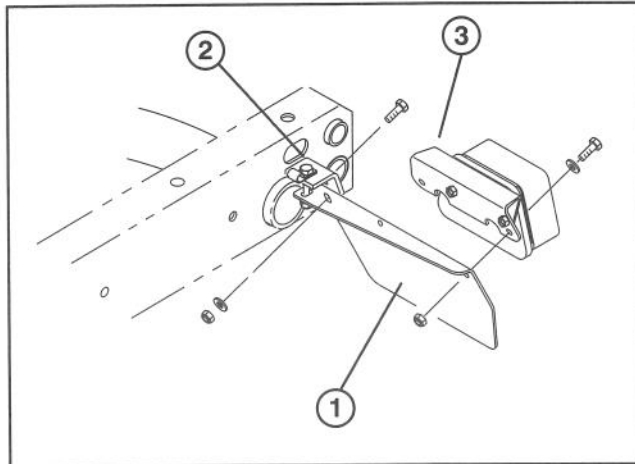

Figure 1
INSTALL REAR FENDERS (Fig. 1 –2)
3. Secure rear of each tail light plate to rear of frame brackets with a 5/16–18 x 1" lg. capscrew, .281" I.D. flatwasher and nut, as shown in figure 1.
4. On left side, remove (2) capscrews, washers and nuts securing tail light mounting bracket to tail light plate.